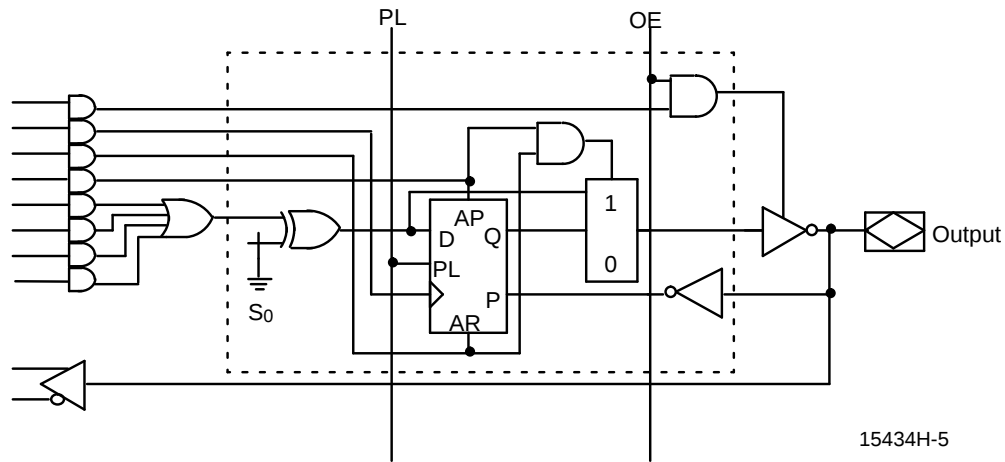

Figure 1. PALCE20RA10 Macrocell
The PALCE20RA10 has ten dedicated input lines and ten programmable I/O macrocells. The Registered Asynchronous (RA) macrocell is shown in Figure 1. $\overline{PL}$ serves as global register preload and $\overline{OE}$ serves as global output enable. Programmable output polarity is available to provide user-programmable output polarity for each individual macrocell.